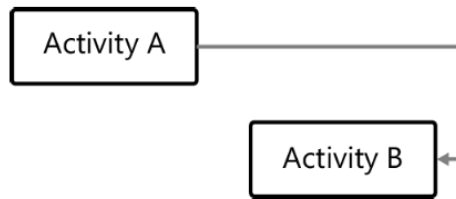

FIGURE 4-4 Finish-to-Finish relationship.
Finish-to-finish (FF) A finish-to-finish relationship is one in which the successor activity cannot finish until the predecessor activity has finished. For example, you cannot finish writing the user manual for a piece of software until the testing is finished. Figure 4-4 depicts how this would be represented diagrammatically.